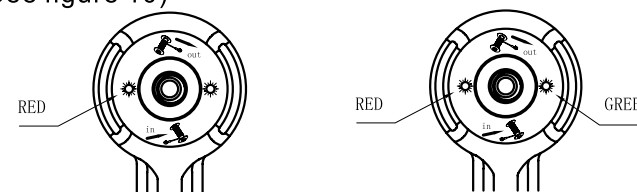

Figure10
- When power is on, the LED on the controller shows RED. When press **IN** or **OUT**, LED light shows GREEN. (See figure 10)